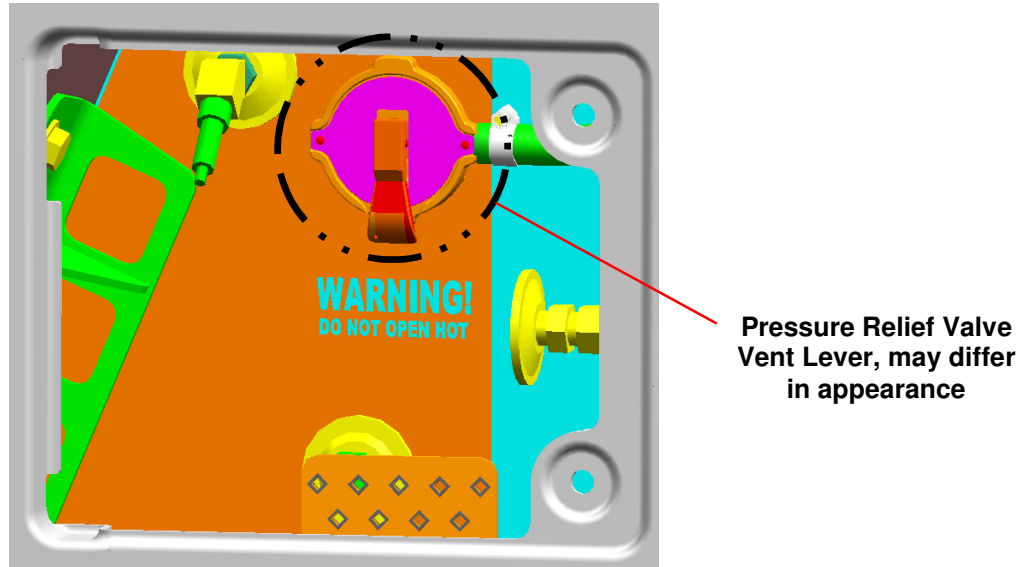

Figure 2: Surge Tank Pressure Relief
6. Relieve the cooling system pressure by lifting the vent lever on the surge tank pressure relief cap. Remove and discard the coolant pressure cap once the pressure has been relieved. See Figure 2.